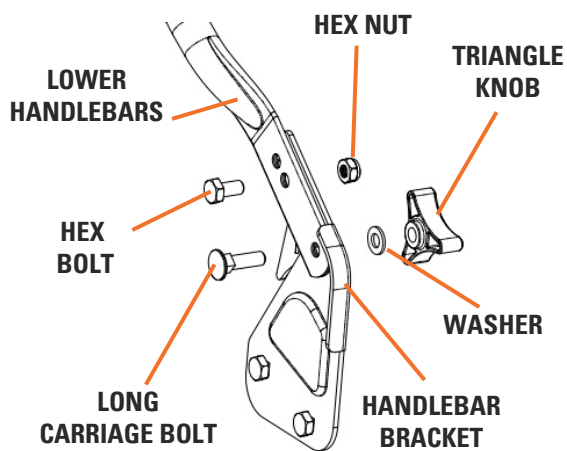

Figure 1
1. Align the lower handlebars with the handlebar brackets, push a hex bolt through on the top and secure with a hex nut on each side. Push a long carriage bolt through on the bottom and secure with a washer and triangle knob (see Figure 1).